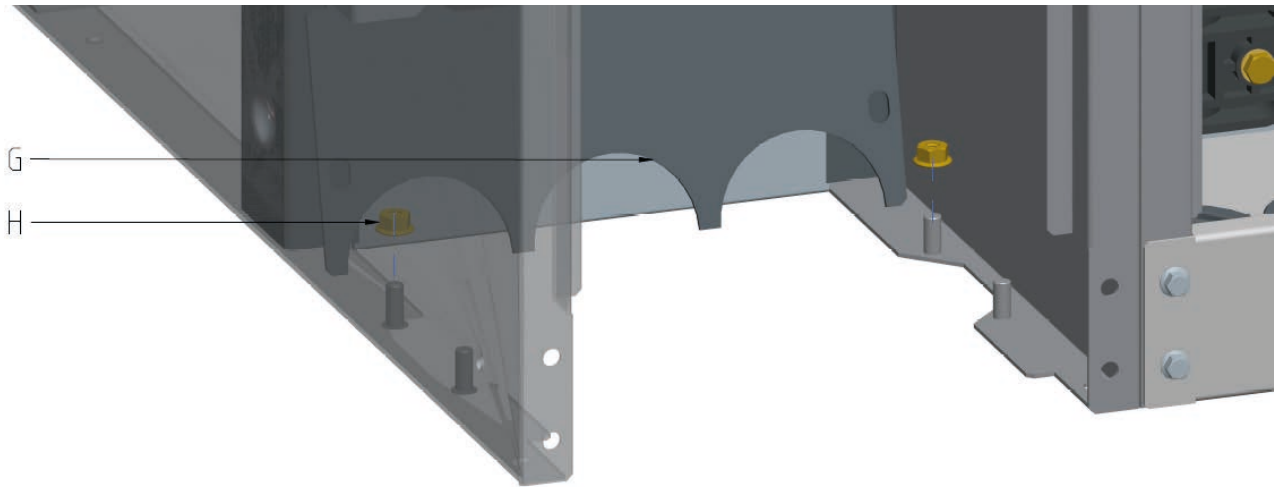

Figure 20: Dismantling of the back bottom plate.
The back bottom plate (G) must be installed, after dismantling the 2 nuts with hexagonal head (H), visible on Figure 20.